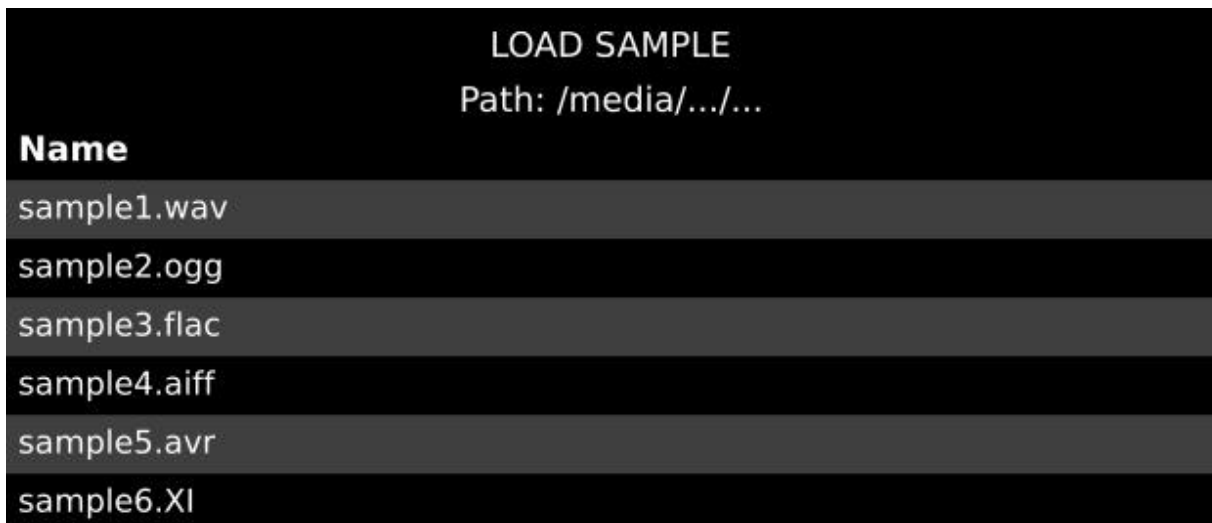

Figure 4
2. Press the “load” button, you will now enter a menu that looks like figure 4